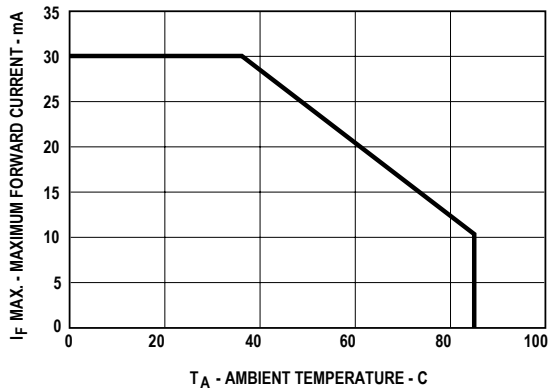

Figure 5. Maximum Fwd. Current vs Temperature
1. Derate linearly as shown in Figure 5.